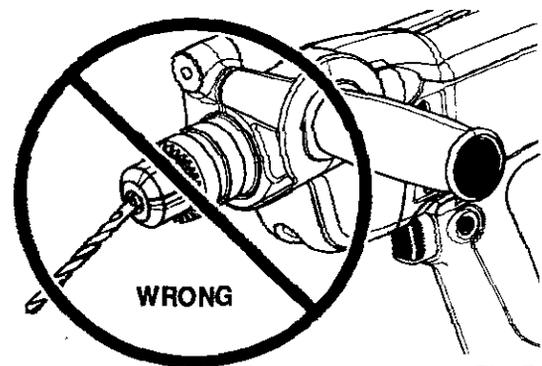

Fig. 7
- ⚠ **WARNING:** Do not insert drill bit into chuck jaws and tighten as shown in figure 7. This could cause drill bit to be thrown from your drill resulting in possible serious personal injury or damage to your chuck.